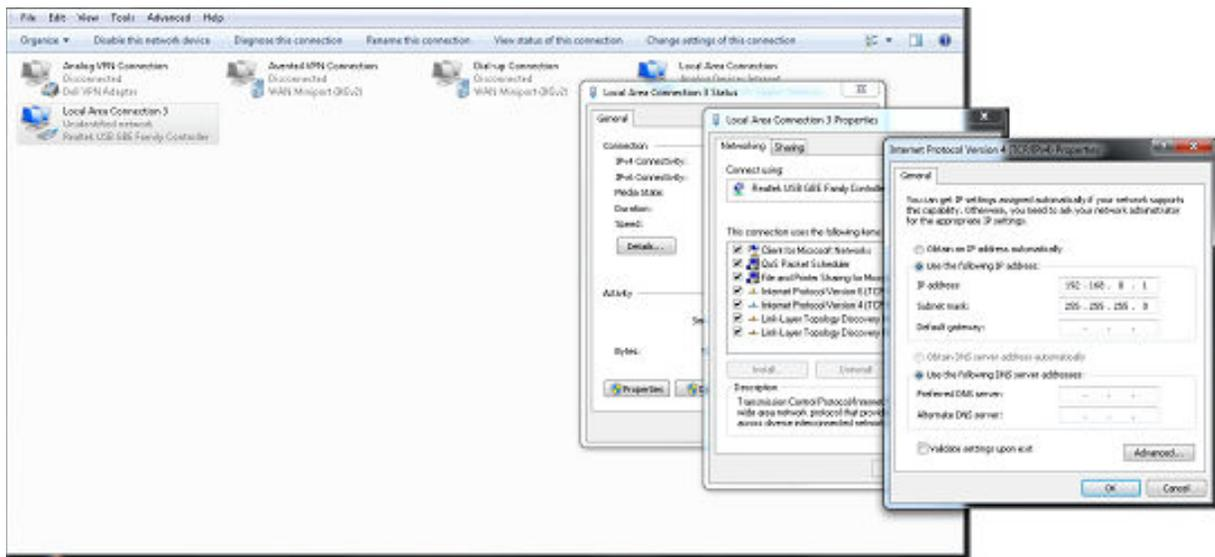

Figure 8. Internet Protocol Settings
6. Double-click the **Local Area Connection** icon that appears (Figure 8 shows **Local Area Connection 3** as an example).